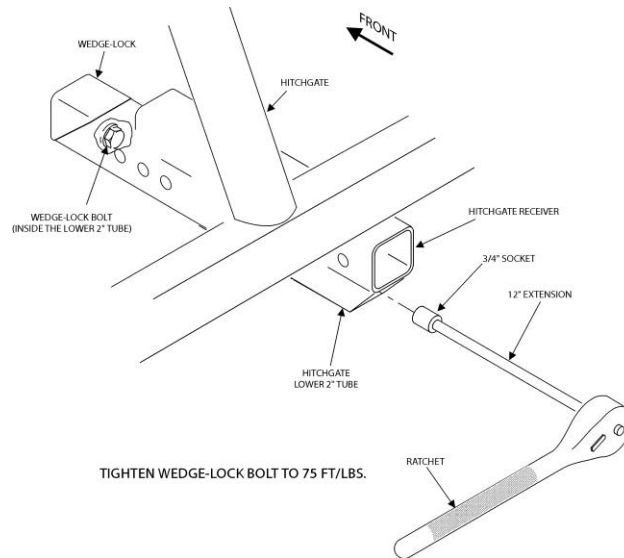

Figure 2. Tighten the wedge-lock bolt to 75 ft/lbs.
6. Tighten the anti-rocking wedge lock using a 3/4" socket and a 12" long extension inserted through the lower 2" tube. Tighten to approx. 75 ft/lbs. **(See Figure 2.)**